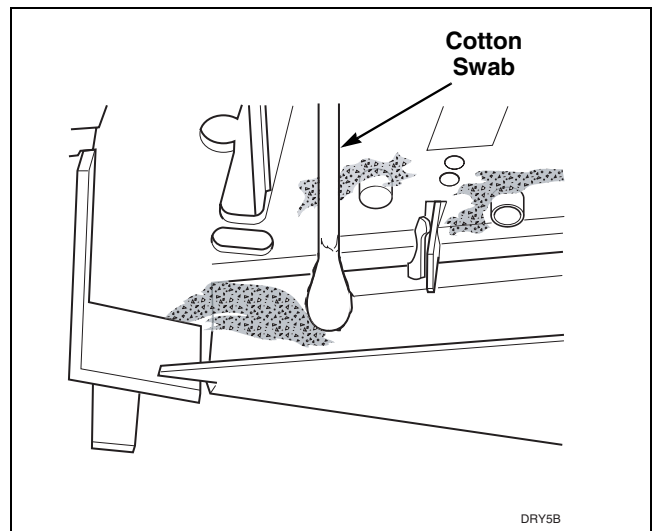

Figure 51
- h. Check coin path in coin drop for lint and residue. If lint or light residues are present, use a cotton swab to remove. If heavy residue is present, it may be necessary to first scrape off excessive residue and then use a cotton swab dipped in water or isopropyl alcohol (rubbing alcohol) to remove remainder of residue. Refer to *Figure 51*.